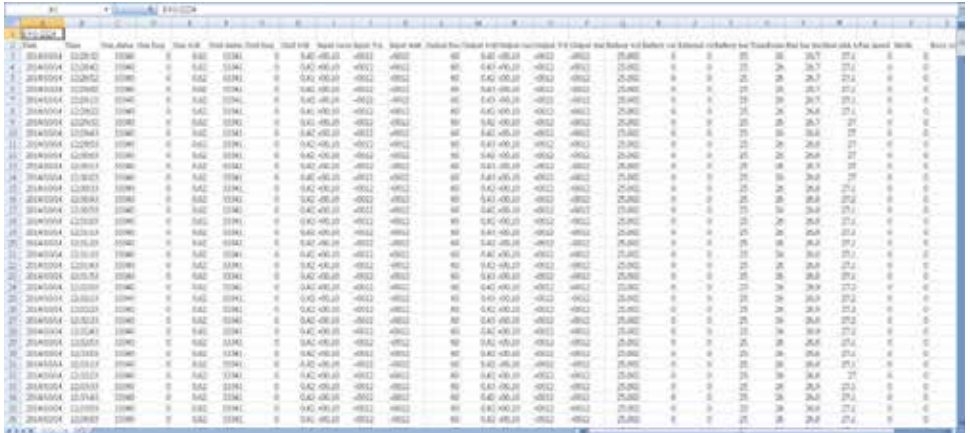

Fig 5.4 Screen Shot and Data Log Work Sheet
- Data as in Fig 5.4 will be displayed on your Worksheet, with the Log Data stored in Columns and Rows.